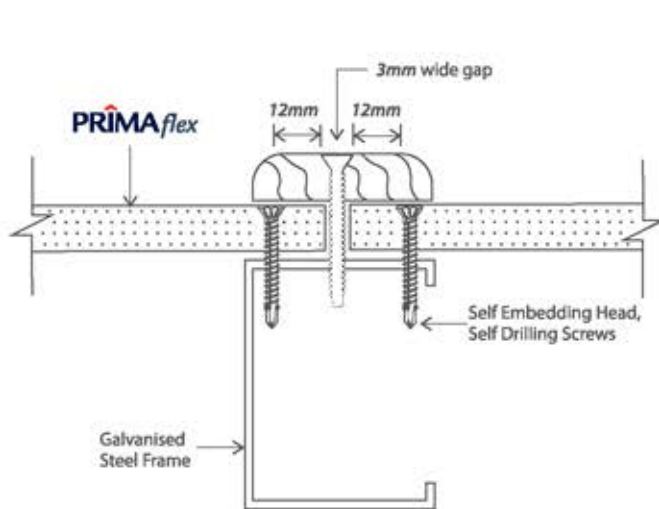

Figure 2.7: Timber Joint
4. Timber batten may be use to cover the joint as well as to serve as a feature. Refer Figure 2.7.